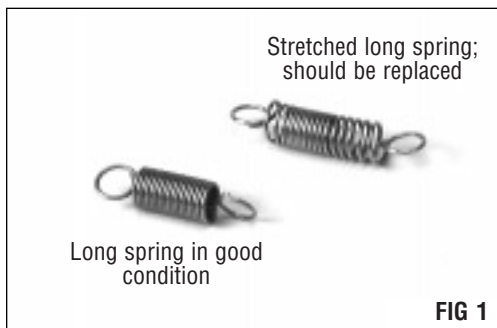

FIG 1
For best results, replace the tension springs if they appear stretched or deformed. FIG 1 shows a comparison between a long spring in good condition and a spring that is stretched and should be replaced.
Plastic L-shaped brackets with adhesive backing (FIG 3) are installed over the bar, in place of the rivets, to secure the toner sensor bar in the hopper, as shown in FIGs 1 and 2. Each time you install a new seal, remove the brackets and old seal, then install a new seal and new brackets. *For an overview of the FX-V sealing system installation process, refer to SSS 99-A, FX-V(KX) Remanufacturing Instructions, or refer to SSS 119 for complete sealing system instructions.*